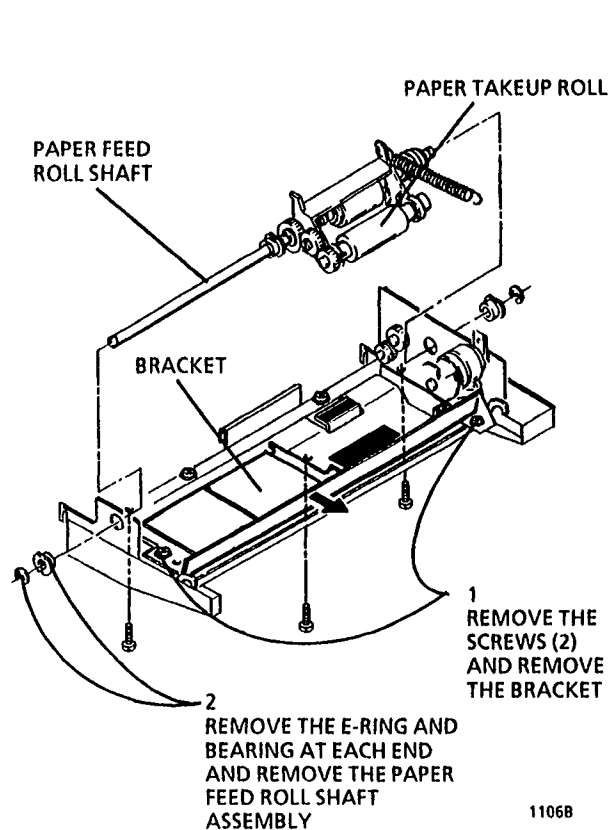

Figure 3. Preparing to Remove the Manual Feed Solenoid
4. (Figure 3): Remove the Paper Feed Roll shaft Assembly.